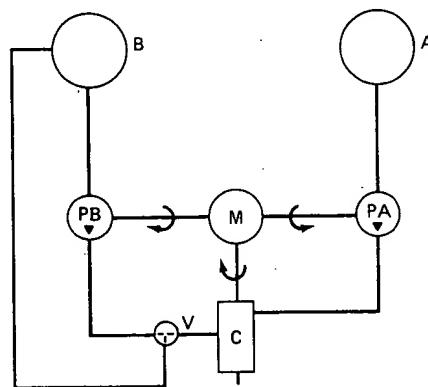

Fig. 1. Gear pump metering circuit. PA—resin metering pump; PB—hardener metering pump; V—three-way valve; M—drive motor; C—mixer. A—resin tank, B—Hardener tank.
The circuit diagram in Fig. 1 shows the common gear pump metering system. The degree of sophistication governing the driving and monitoring of these devices varies from manufacturer to manufacturer, as does the cost.
In Fig. 1, the letters A and B represent the supply tanks. Tank A is usually the resin sup-
The advantage of the gear pump system (Fig. 1) is its simplicity. The system contains no check valves. It may contain a three way valve (V) to divert hardener from the mixer to the tank for the purpose of ratio checking or purging the mixer with resin.